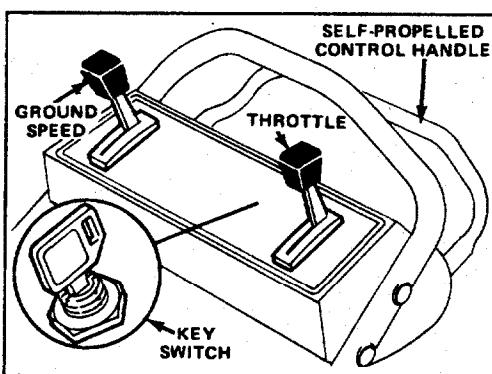
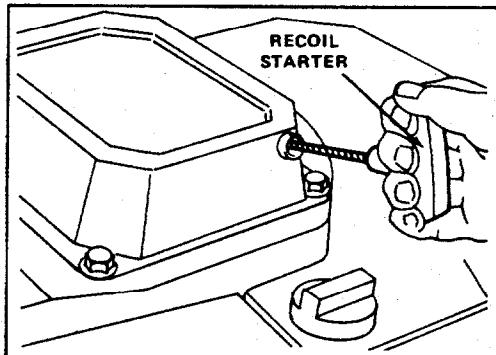

Figure 9
Figure 11
1. CONTROLS—Key switch (Model 26624 only), throttle, ground speed control, and blade/self-propelled control bar are on upper handle (Fig. 9). Recoil starter is on top of engine.
3. Move ground speed control to "N" (Fig. 9).
4. KEY-LECTRIC STARTING (Model 26624 only)—Move throttle (Fig. 9) to CHOKE. Turn key (Fig. 9) to START and release when engine begins running. Regulate throttle as desired. If the battery's charge is too weak to start the engine, the engine can be started with the recoil starter (Fig. 11).
5. MANUAL STARTING (Model 26622)—Move throttle to CHOKE. Pull engine mounted recoil starter out until positive engagement results; then pull vigorously to start the engine (Fig. 11). Regulate throttle as desired when engine starts.
6. GROUND SPEED (Fig. 9)—Move ground speed control to desired setting. Number "1" is slow, "2" is medium, and "3" is a fast walking pace. Move ground speed control to "N" when using the mower for trimming and whenever leaving mower.
8. STOPPING (Fig. 9)—Release control bar to stop blade and traction drive. Move ground speed control to "N". To stop engine, move throttle to OFF. Remove key from switch or pull wire off spark plug if mower is unattended or not used.
2. Move throttle control to FAST (Fig. 9).